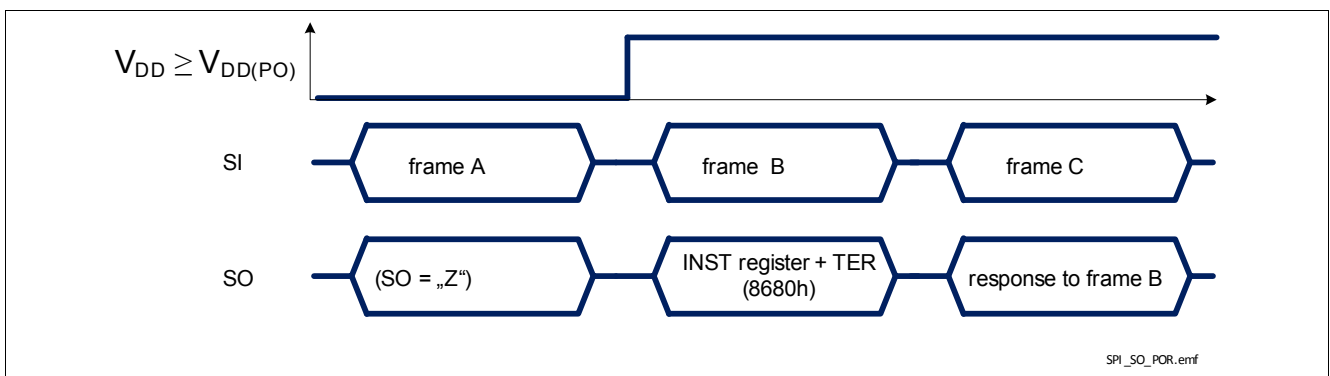

Figure 30 TLE75008-EMD response after coming out of Power-On reset at V_{DD}
- when TLE75008-EMD logic supply comes out of Power-On reset condition or after a Software Reset, as shown in **Figure 30**